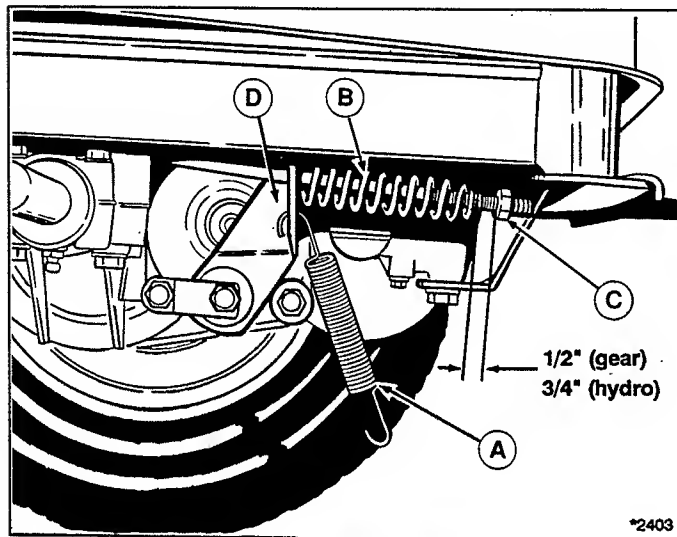

Figure 27. Clutch/Brake Rod (Gear Model shown)
2. Remove end of tension spring (A, figure 27) from bracket.
3. Push compression spring (B) against brake cam. On gear models, there should be $1/2"$ clearance between the compression spring (B) and nut (C) as shown in figure 27. On hydro models, there should be $3/4"$ clearance between the compression spring (B) and nut (C).
4. To adjust, turn adjustment nut (C) as necessary for correct spring gap.